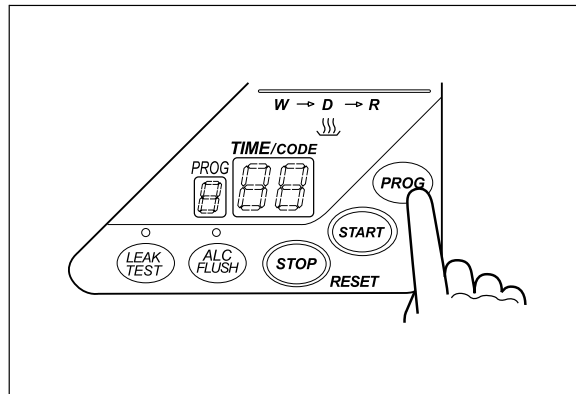

Figure 7.35
3. Press the PROG button on the main control panel to select a program [1] to [3] (see Figure 7.35).